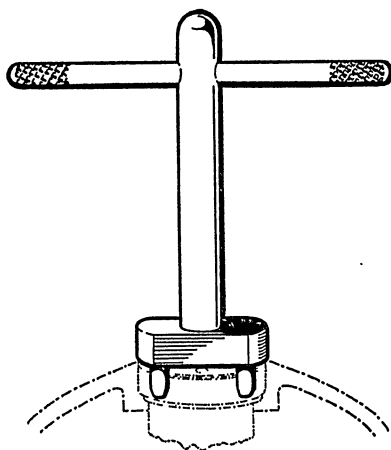

Fig. 6. Peg spanner ST.5005
8. (1) Unscrew the spring housing, using the peg spanner ST.5005 (fig. 6). Remove the sealing washer and the spring.
(5) Remove the top chamber from the setting fixture. Fit the diaphragm spring, a new sealing washer (Ref. No. 27KD/247) and the spring housing. Use the peg spanner ST.5005 (*fig. 6*) to tighten the housing.
(6) Apply the top chamber sub-assembly tests (*para.* 28 and 29).
(7) Fit the retaining bolt into the orifice body, securing it with the circlip (A.G.S.